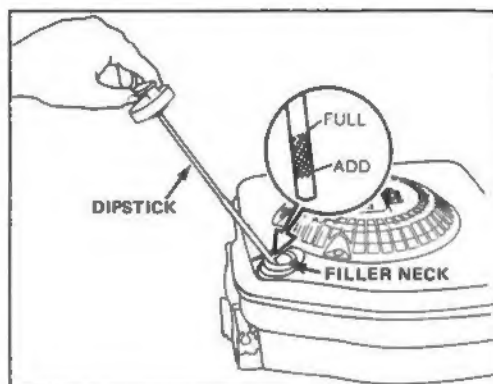

Figure 3
Before each use, assure oil level is between FULL and ADD marks on dipstick (Fig. 3). Add oil if level is low.
3. Wipe dipstick and insert it into filler neck. Rotate cap clockwise 1/4 turn. Then remove dipstick and check level of oil (Fig. 3). If level is low, add only enough oil to raise level to **FULL** mark on dipstick. **DO NOT FILL ABOVE FULL MARK BECAUSE ENGINE COULD BE DAMAGED WHEN STARTED. POUR SLOWLY.**
1. Clean around fuel tank cap and remove cap from tank (Fig. 3). Using unleaded gasoline, fill fuel tank to within 1/2 inch (13 mm) from top of tank.